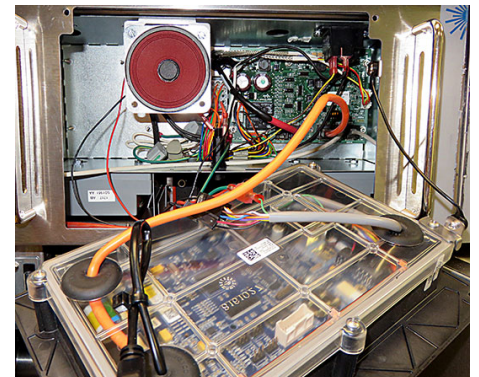

Figure 11
15. Lower the controller and rest it on the bottom of the control box (see Figure 11). The black tether on the right will support the controller.